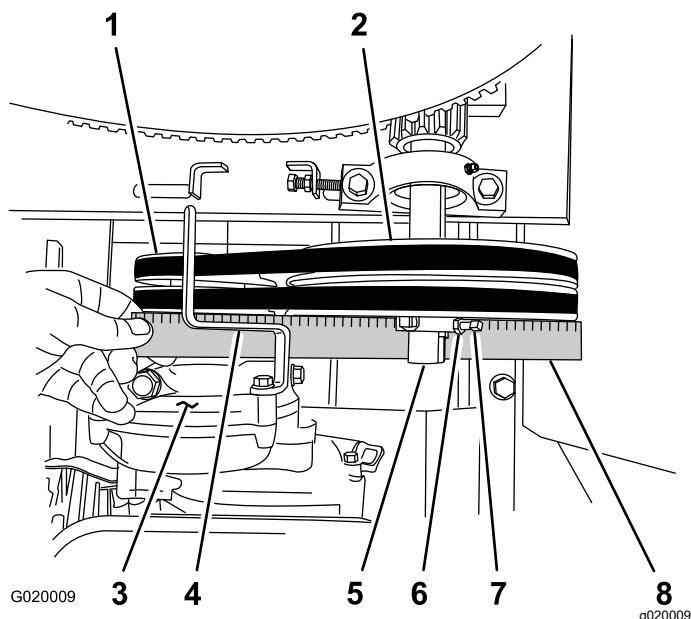

Figure 66
- D. Align a straightedge across the engine pulley and the idler pulley (Figure 66).
- E. If necessary, pivot the engine on the engine deck until the engine pulley and idler pulley are aligned to the straightedge (Figure 66).